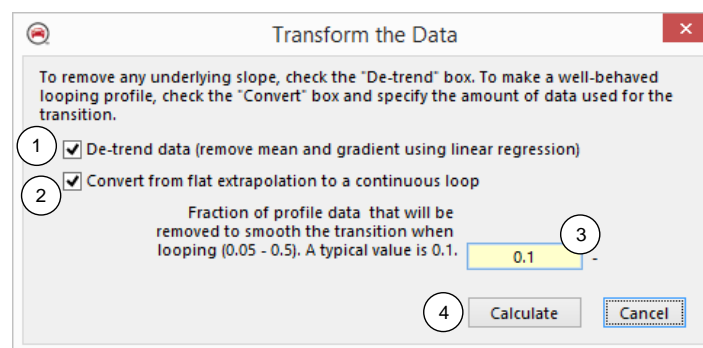

Figure 53. Options to transform profile data to make looped profiles.
If the screen is currently showing tabular data with the calculation method set to **Linear interpolation, flat-line extrapolation**, then the button **Transform the Data** ⑤ becomes active. Clicking the button brings up a new window with settings to control the transformation (Figure 53).